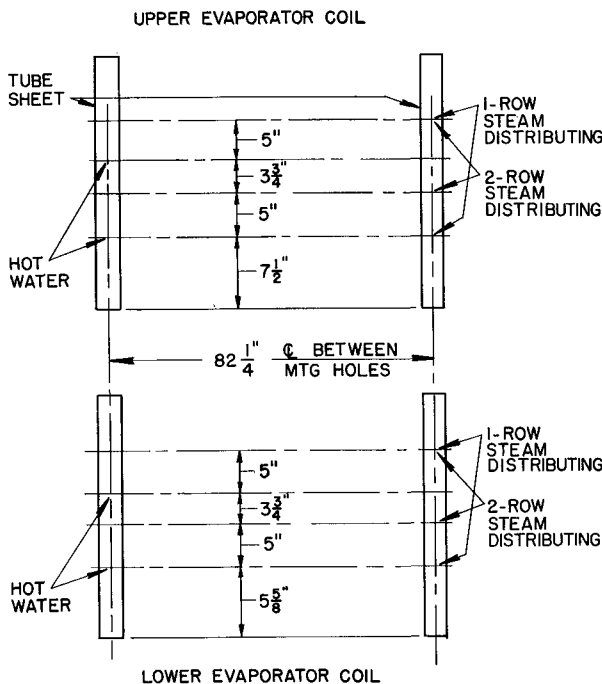

Fig. 9 — Layout for Coil Mounting Holes
2. Check layout of holes in coil tube sheets for the respective coils as specified in Fig. 9.
3. If the layout does not check, lay out the 2 required holes in each end tube sheet. Each type of heating coil requires a different set of mounting holes, Fig. 9.